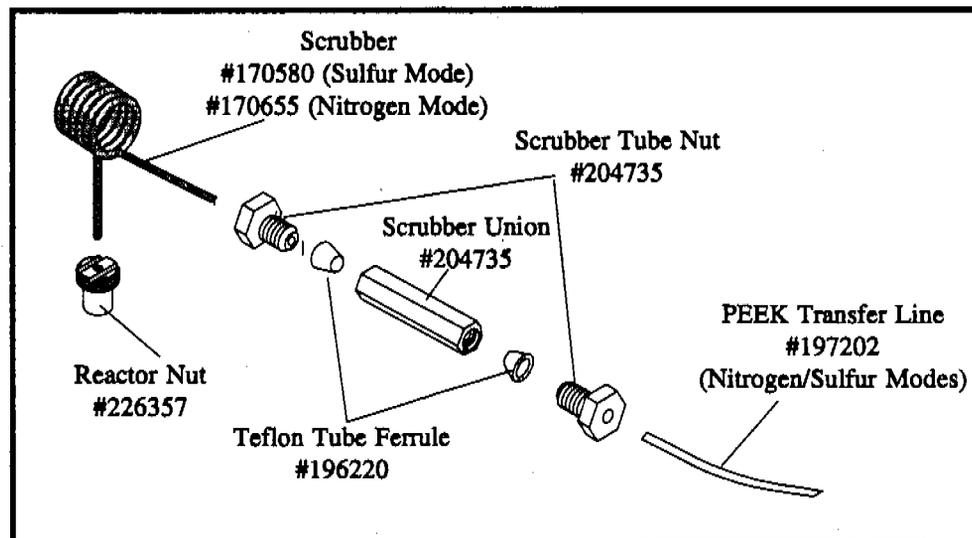

Figure 5.2. Scrubber Assembly
- For the Nitrogen/Sulfur Modes, disconnect the PEEK tubing (Part #197202) at the scrubber union (Part #204735) by loosening the scrubber tube nut (Part #204735) (see Figure 5.2).
- For Nitrogen/Sulfur Modes, attach the scrubber by inserting the correct end into the reactor nut with the 1/16" Teflon ferrule (Part #272443). See Figure 5.2 for the proper scrubber orientation. The reactor nut needs to be only **finger-tight**. Examine the Teflon ferrule and replace, if necessary.
Periodic replacement of the chemical scrubber is required to maintain proper ELCD selectivity (for Nitrogen and Sulfur Modes, see Figure 5.2). Common symptoms that indicate the need to replace the scrubber include: response to halogens, no response, low response, or blocked scrubber. Replace the scrubber as described in the following procedure.
- Remove the scrubber union from the scrubber by loosening the scrubber tube nut between the scrubber and the union (see Figure 5.2). Inspect the Teflon tube ferrule (Part #196220) and replace, if necessary.
- Install a new scrubber by inserting the knurled reactor nut and Teflon ferrule onto the scrubber and **finger-tightening** the reactor nut onto the reactor union. See Figure 5.2 for proper scrubber orientation. Use a nitrogen scrubber (Part #170655) or a sulfur scrubber (Part #170580).